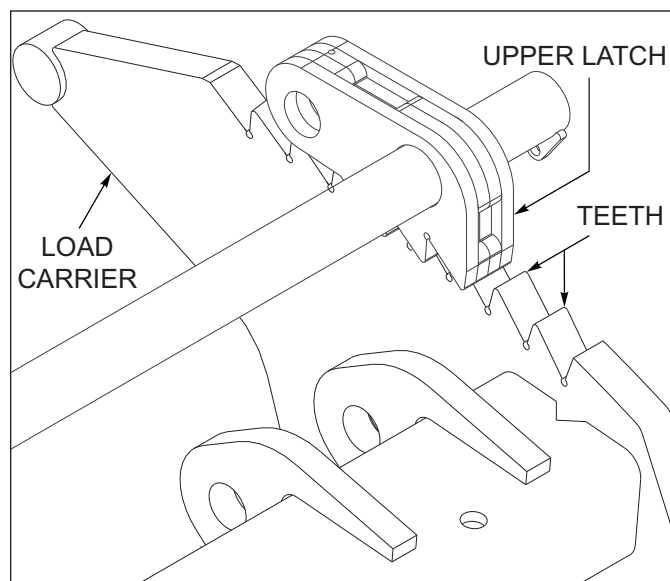

Figure 4-2: Upper Latches
5. Using the Trailer Lift Control Lever, lower the front of the frame until the Load Carrier Upper Latches rest fully in the Load Carrier Latch Teeth. See Trailer Components \(3 of 7\) on Page 3-3 & See Figure 4-2
4. Using the Trailer Lift Control Lever, slightly raise the front of the trailer to release pressure on the Load Carrier Upper Latches. See Figure 4-2